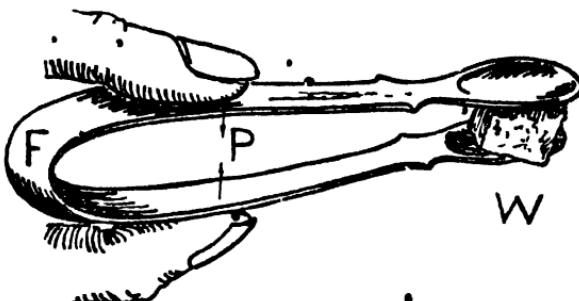

Fig. 85.
**Sugar tongs** are levers which are different in type from the crowbar and the wheelbarrow. Here, from Fig. 85, you will see that the power is in between the weight or load, i.e. the sugar, and the fulcrum.